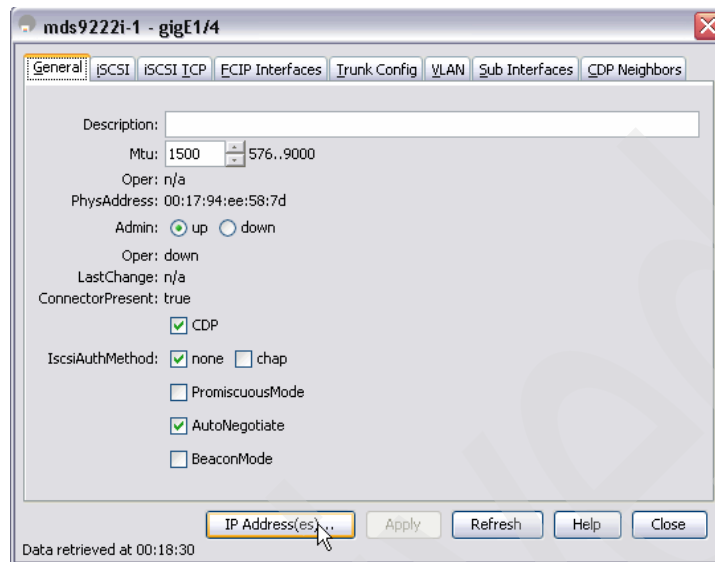

Figure 7-31 Device Manager Interface panel
2. Select **Edit IP Address**, as shown in Figure 7-31.